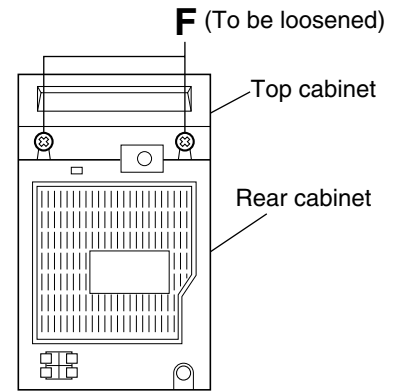

Fig.8
(See Figs. 8 and 9.)
- 1. From the back side of the main body, loosen the two screws **F** retaining the top cabinet. (See Fig.8.)